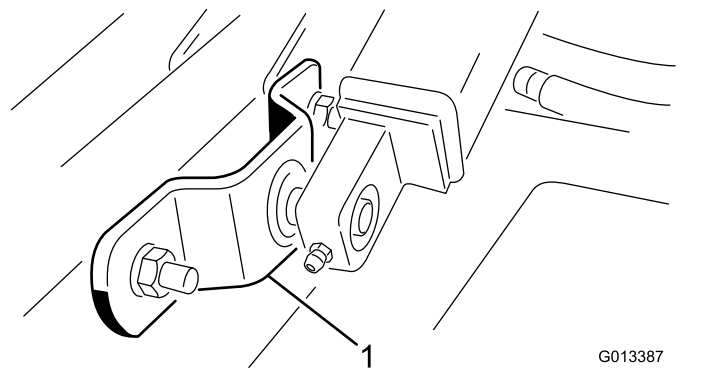

Figure 8
12. Remove the bolts, washers, and locknuts securing each lift arm mount to the castor-arm tubes (Figure 8).